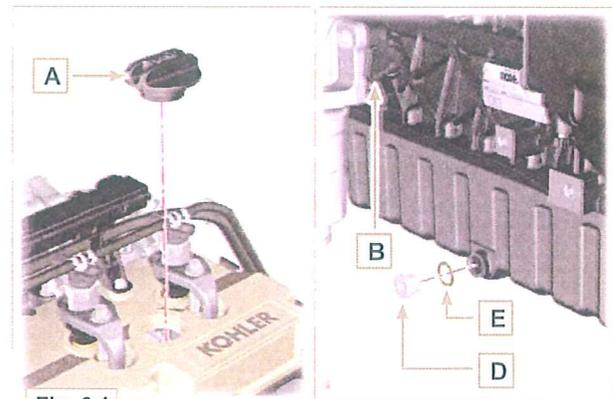

Fig. 6.1
- 1 - Loosen the oil filler cap A (Fig. 6.1).